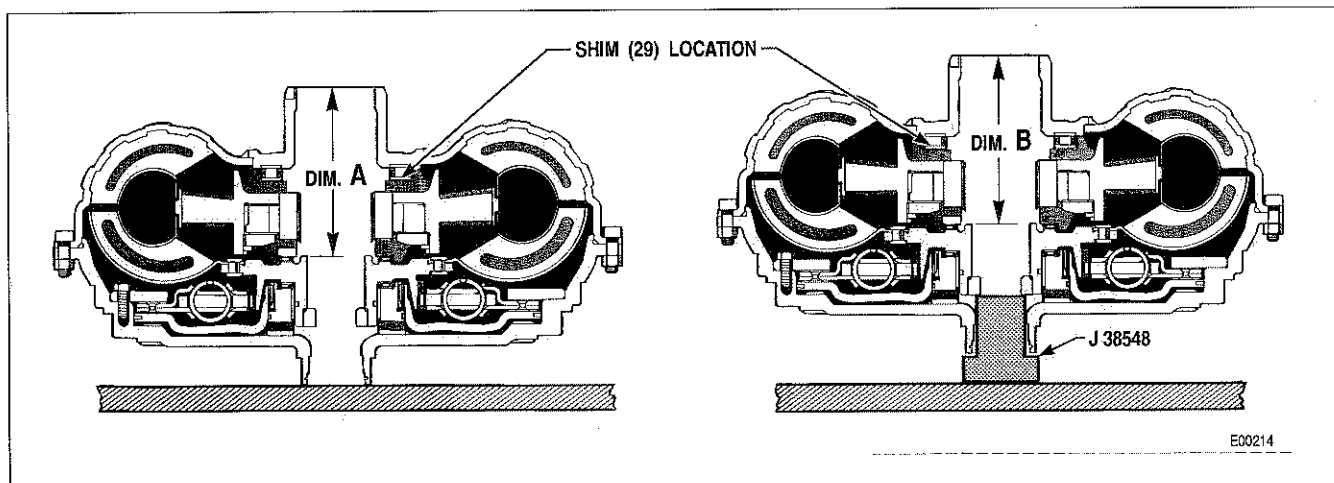

Figure 5-2. Torque Converter Selective Shim Procedure
19. Using a depth micrometer, measure from the top of the converter hub to the thrust surface of turbine assembly 18. This is dimension A (Figure 5-2).
20. Insert tool J 38548 into the converter cover and place on a flat surface. Repeat the same measurement as in Step (19). This is dimension B.